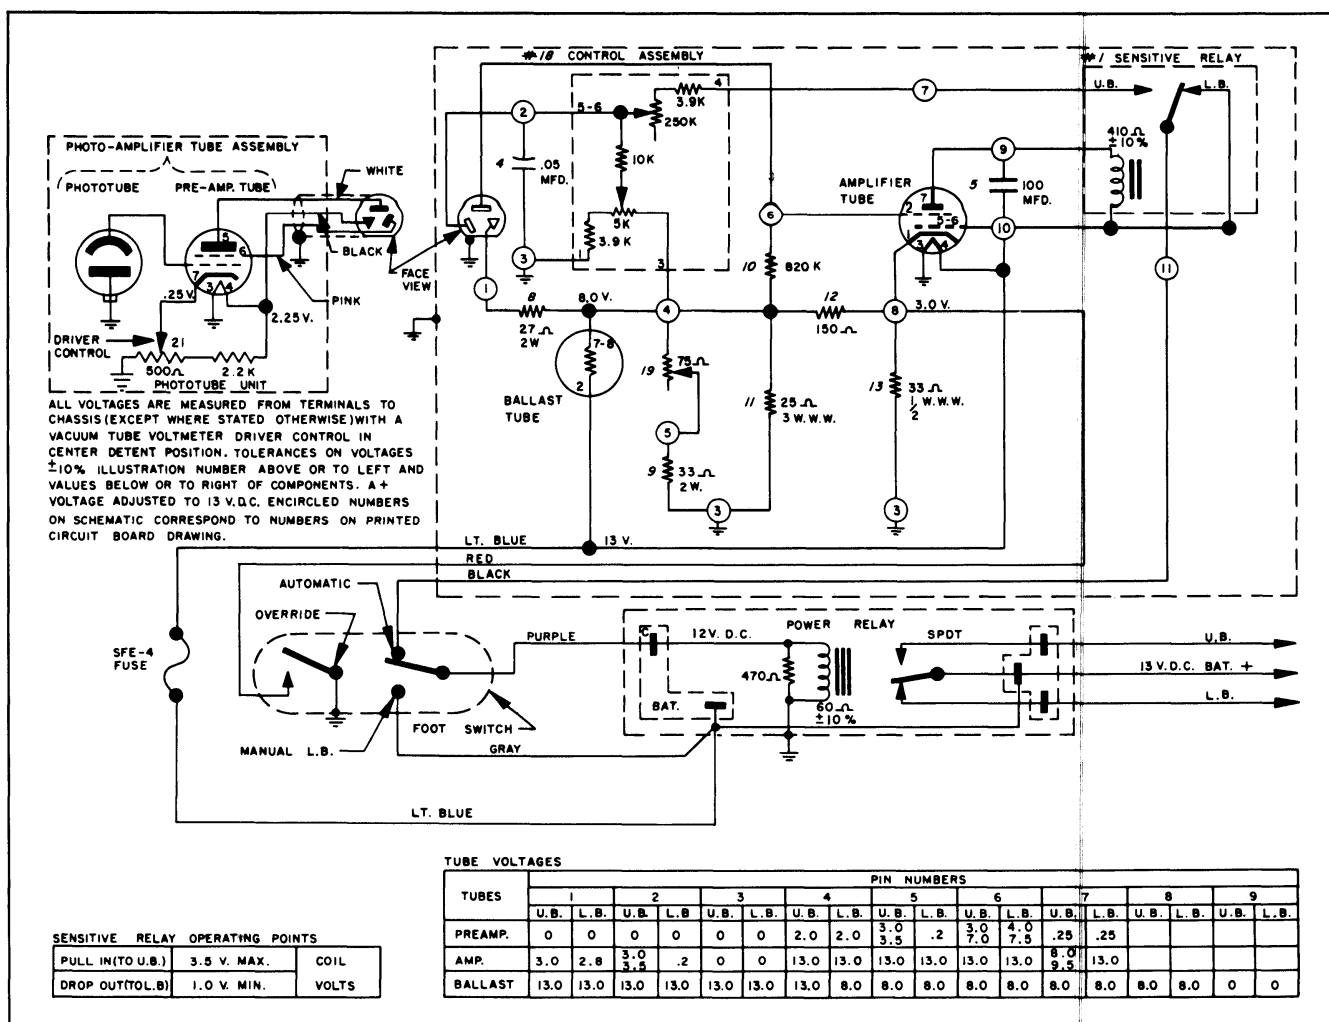

Fig. 12-31 Guide-Matic Circuit Diagram
1. Ground the white wire of the phototube harness. See Fig. 12-31. (It may be necessary to drop amplifier. If so, use external ground for case of amplifier.)
2. Remove red wire from foot switch (Fig. 12-31).